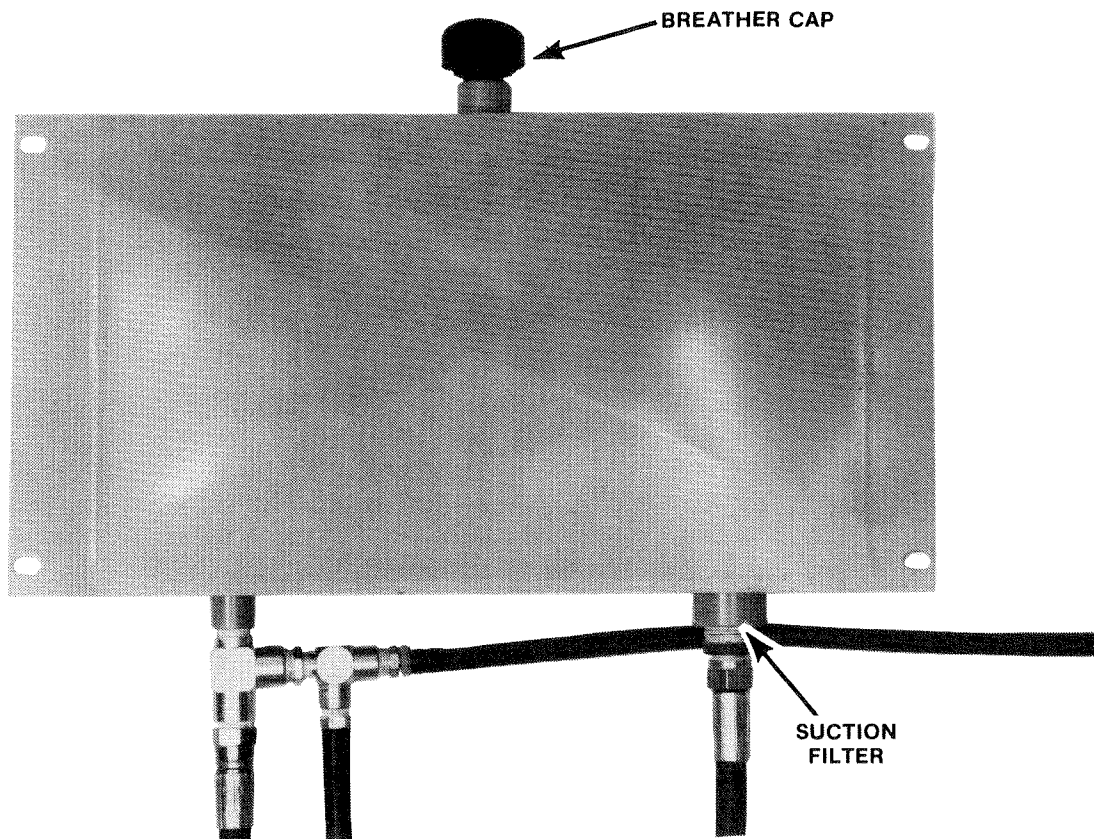

Figure 7. Filling Hydraulic Reservoir and Checking Hydraulic Oil Filter
- (1) Check the suction and return hoses and fittings (Fig. 7) for leakage or damage each day. Tighten or replace when necessary to prevent loss of hydraulic oil.
- (2) If platform does not stay up, check and clean manual valve, solenoid valves and flow control valve in manifold block. Be sure platform is in stowed (down) position and reservoir is drained when removing any components. Replace valves in original position.
- (1) Lower platform completely.
- (2) Unscrew the breather cap (Fig. 7) located inside frame member and fill the reservoir with hydraulic fluid conforming to MIL. Spec. 0-5606, Flowmite 150 Hydraulic fluid or a good grade SAE 10W hydraulic oil.